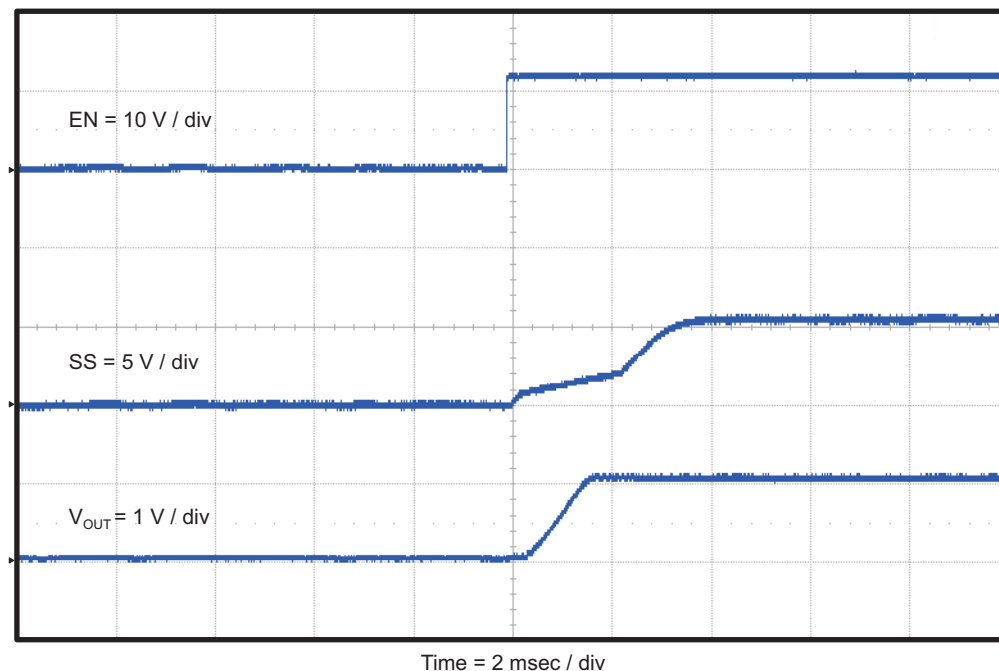
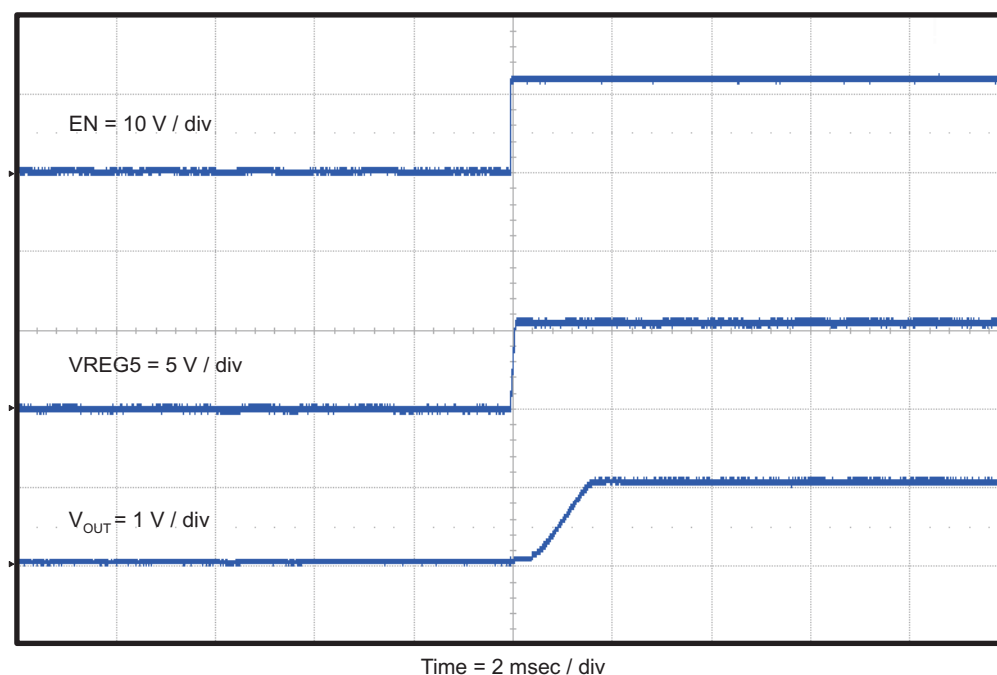

Figure 13. TPS54229EEVM-056 Start-Up Relative to EN With SS
Figure 14. TPS54229EEVM-056 Start-Up Relative to EN With VREG5
The TPS54229EEVM-056 start-up waveforms relative to enable (EN) are shown in Figure 13 and Figure 14.